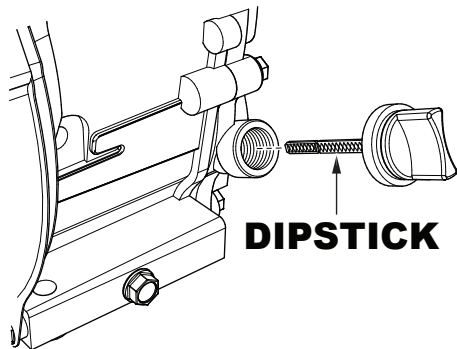

Figure 18. Engine Oil Dipstick
2. Remove the dipstick (Figure 18) from the engine oil filler hole and wipe it clean.